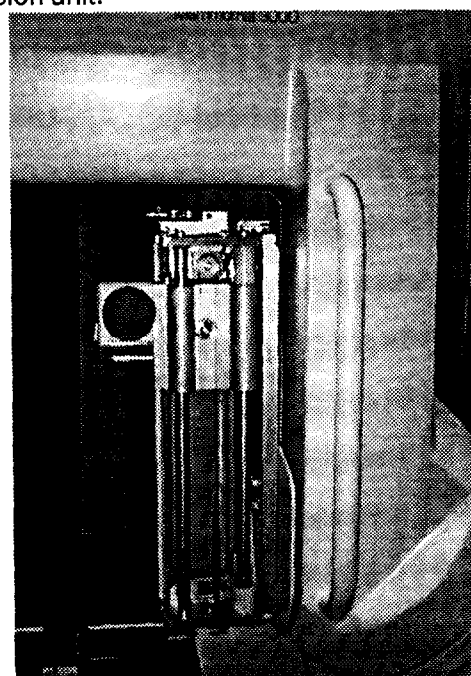

Fig. 2b
- Grease the rails lightly and check the belt and string (Fig.2b) for damage / wear as well as for tension.